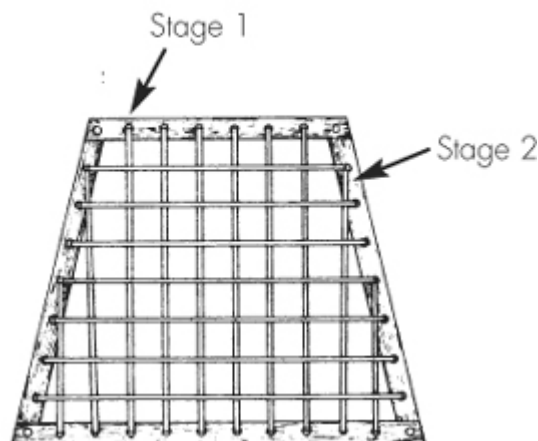

fig. 3
11. Stage 2 is worked from side to side. The steps are exactly the same as in Stage 1. The cane is run on top of the first stage canes. Again leave the corner holes open. See Figure 3.